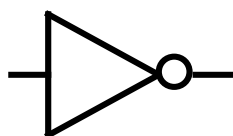

Fig 3.18: NOT Gate
1. **The NOT gate:** The NOT gate is also called an inverter. It has a single input and an output. It performs logical inversion operation, inverting 1 to 0 and vice versa. That is, if the input is A, then the output is NOT A, written as $\bar{A}$. The output of an inverter is the opposite of the input. Figure 3.18 shows the symbol of an inverter